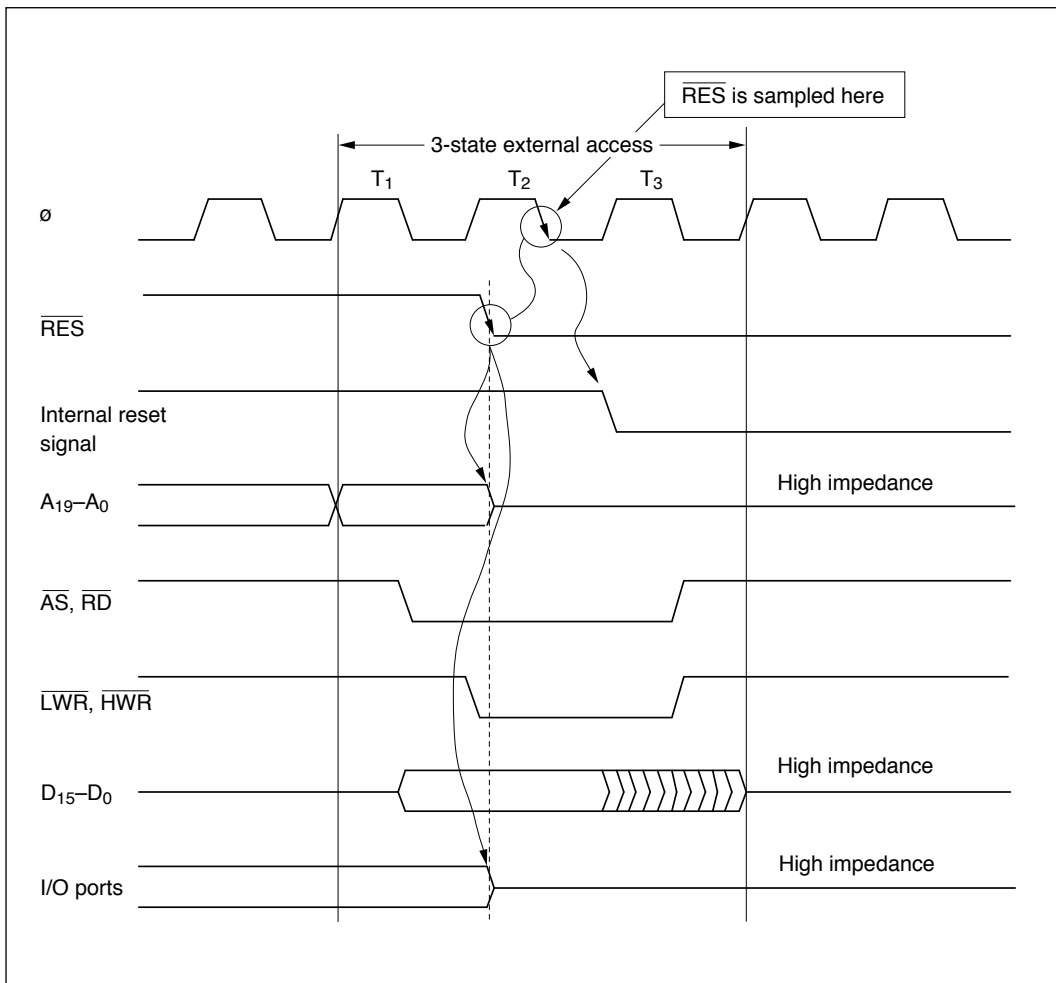

Figure G-4 Reset during Three-State Access (Mode 4)
(4) Mode 4: Figure G-4 is a timing diagram for the case in which $\overline{\text{RES}}$ goes low during three-state access in mode 4. As soon as $\overline{\text{RES}}$ goes low, all ports are initialized to the input state. $\overline{\text{AS}}$, $\overline{\text{RD}}$, $\overline{\text{LWR}}$, and $\overline{\text{HWR}}$ go high, and D_{15} to D_0 go to the high-impedance state. A_{19} to A_0 are initialized as soon as $\overline{\text{RES}}$ goes low, and become input ports.